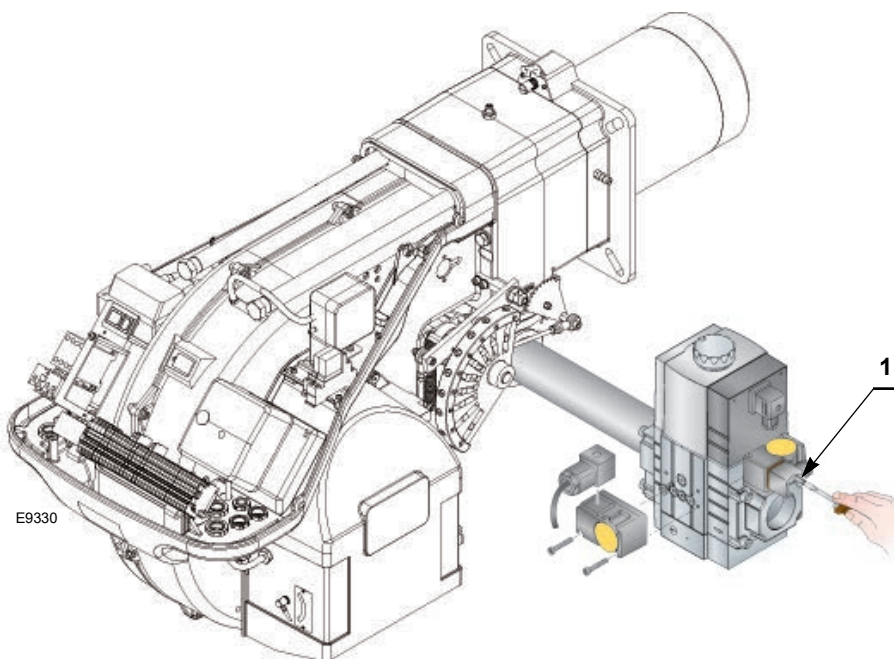

Fig. 23
- Check the gas supply pressure by connecting a pressure gauge to the pressure test point 1 (Fig. 23) of the minimum gas pressure switch: it must be lower than the maximum allowed pressure of the gas train, as shown on the characteristics label.
- Bleed the air from the piping of the gas train, connecting a plastic tube to the pressure test point 1 (Fig. 23) of the minimum gas pressure switch. Take the vent tube outside the building so you can notice the smell of gas.